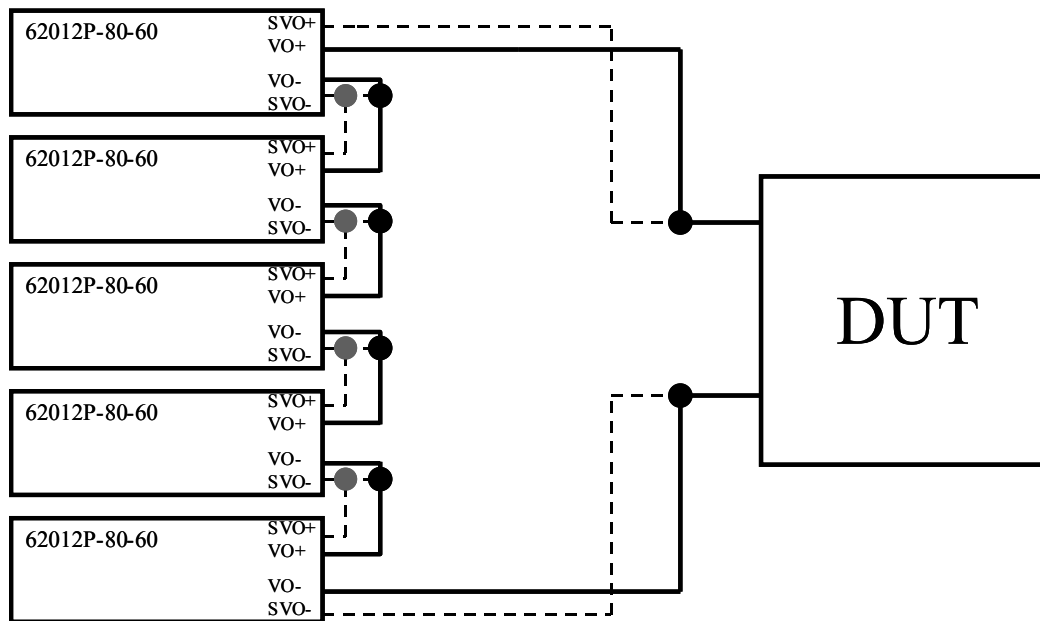

Figure 3-30
1. Figure 3-30 is the series connection.